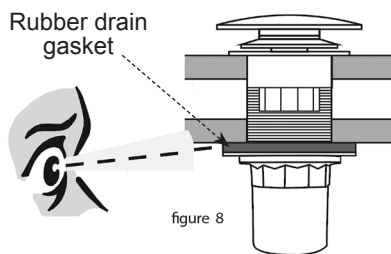

figure 8
16. Fill the tub with water to the overflow and allow to set for 20 minutes, then drain the tub while inspecting the waste connections below the floor for leaks. Access from below will be necessary for this step (figure 8).